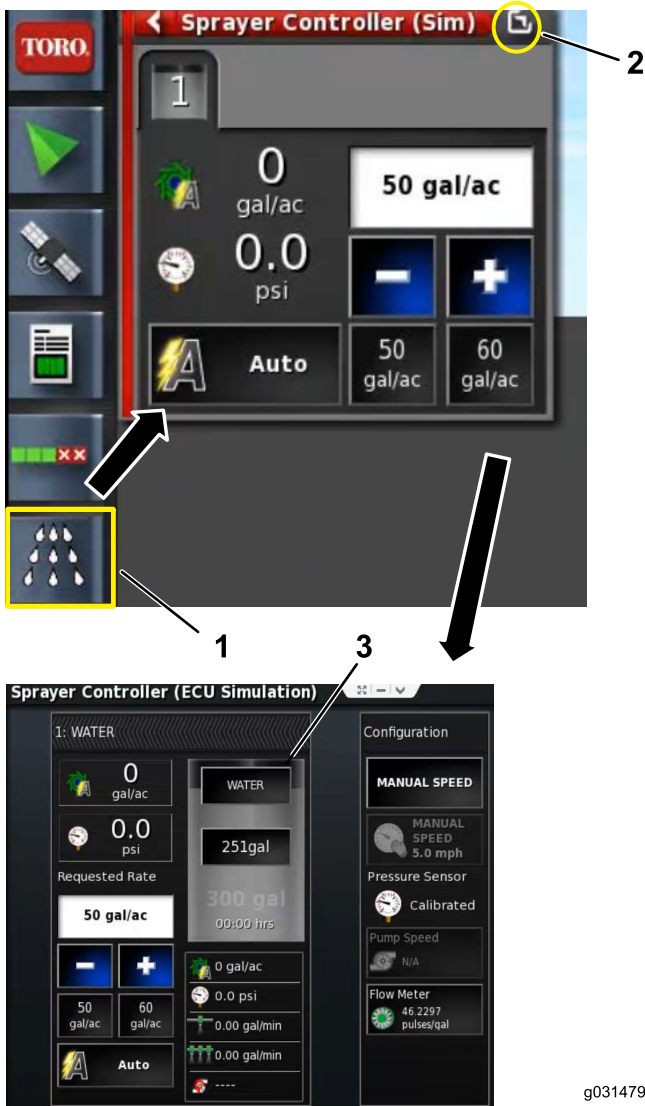

Figure 3
3. Select the product title, finish the wizard for rate, and confirm (Figure 3).